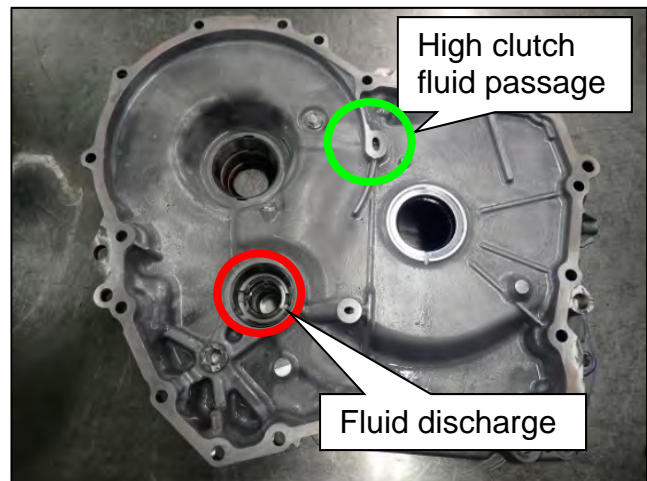

Figure 120
- To avoid the risk of minor personal injury, take care when cleaning passages as brake cleaner will exit the passage shown as “fluid discharge” in Figure 120.